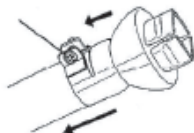

Fig. 2
- Loosen the nozzle mounting screw, attach the nozzle to the heat gun then screw (figure 2).